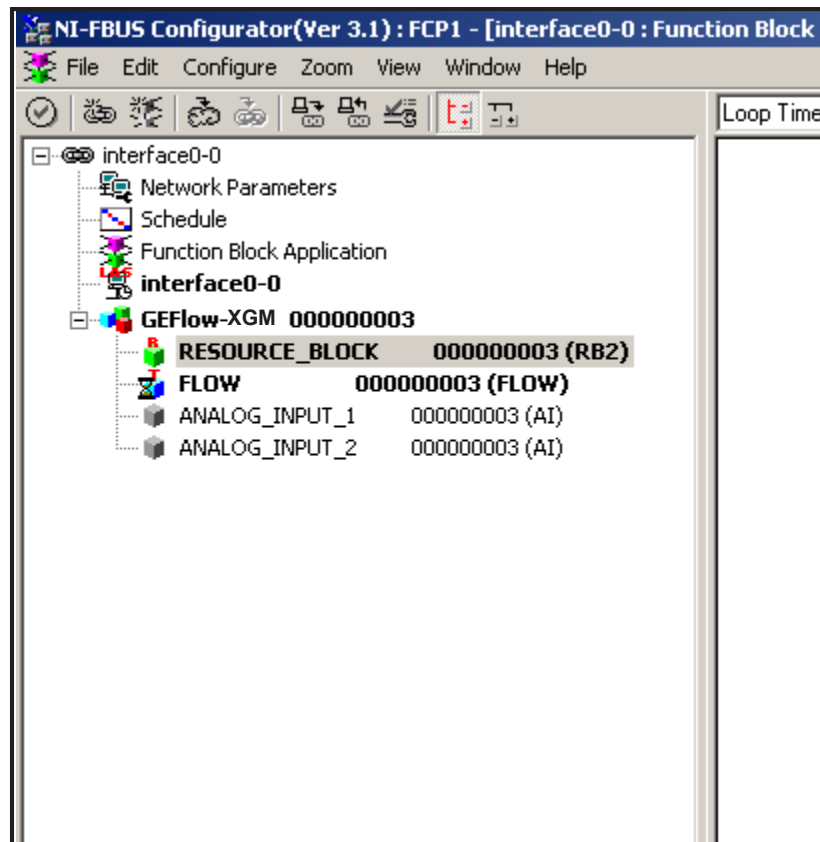

Figure 59: Configuration Utility Setup Example
Figure 59 below shows the Configuration Utility with a flowmeter on the network (GE Flow-XGF).
1. Double click on the AI block for which you wish to set the units (ANALOG_INPUT_1 or ANALOG_INPUT_2 in the tree under GEFlow-XGF; see *Figure 59 on page 136*).
1. Double click on the FLOW transducer block (in the tree under GEFLOW-XGF; see *Figure 59 on page 136*).